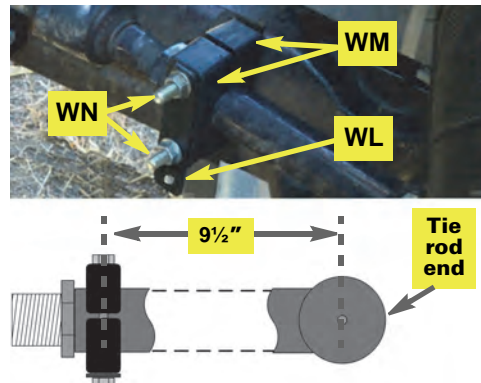

Figure 2c: WAS link rod bracket installed
- c. Using hardware **WN** mount clamp **WM** and link rod bracket **WL** on the right tie rod. Mount **WL** toward the rear, vertically and with its rod hole downward (Figure 2c, top). Set the centerline of the clamp/bracket assembly $9\frac{1}{2}$ " from the center of the tie rod end (Figure 2c, bottom).